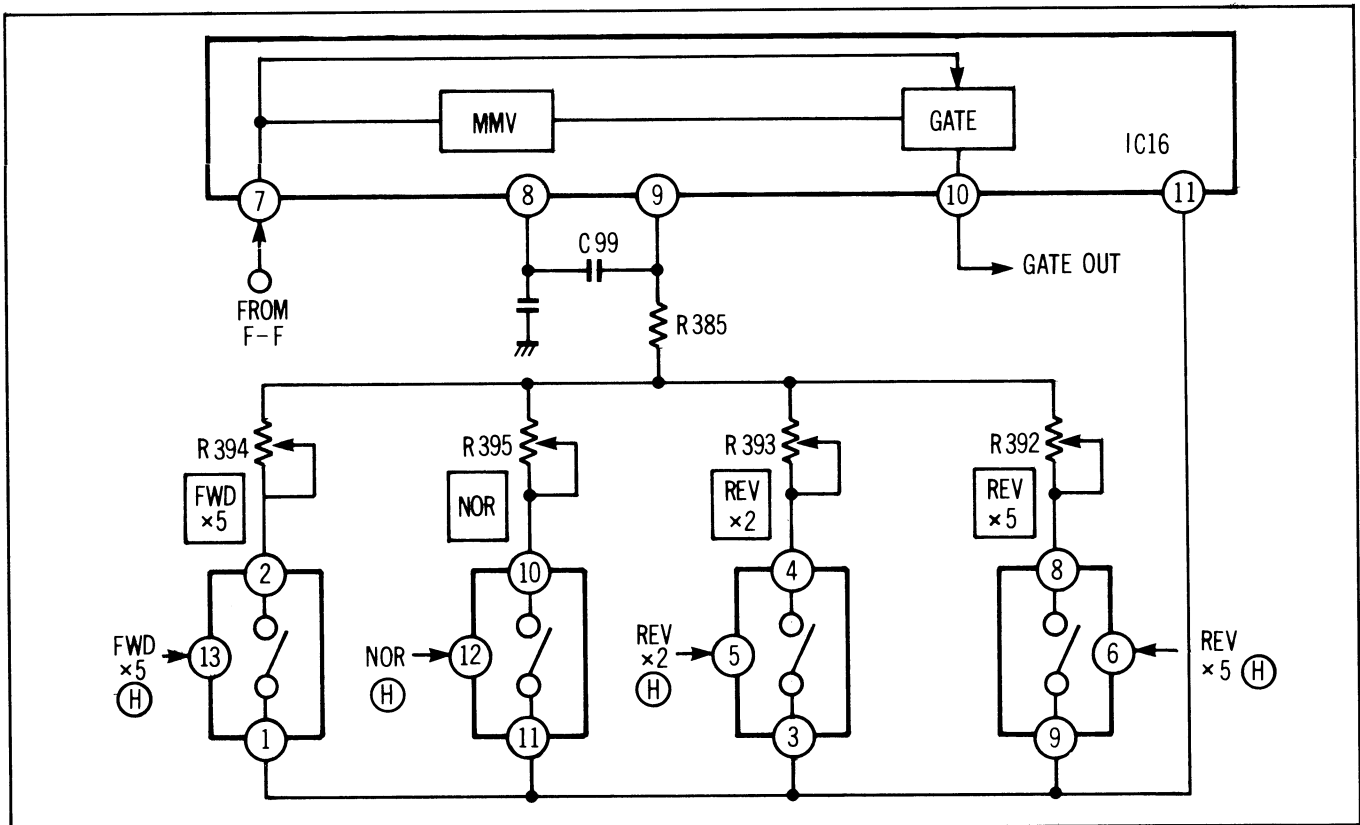

Figure 2-139
The respective drum F.R. adjustments are performed by R394, FWD X5; R393, REV X2; and R392, REV X5; in addition to X1, R395, as shown in Fig. 2-139. T1 changes inversely with motor speed. Therefore, "t" also changes with motor speed. As the speed increases, "t" becomes wider, and as the speed decreases, "t" becomes narrower. The output of the AND gate is supplied to a trapezoid network which consists of Q40, Q41, Q42, R338 and C110. And after passing through an emitter follower (IC18), the trapezoid is peak sampled and held by IC15, C112 and IC18.
Respective speed selector which consists of IC21 (A), (B), (C) and (D) are switched by the switching signal. The switching signal is produced by the gate circuit which consists of IC19 and IC20. (See Fig. 2-139).